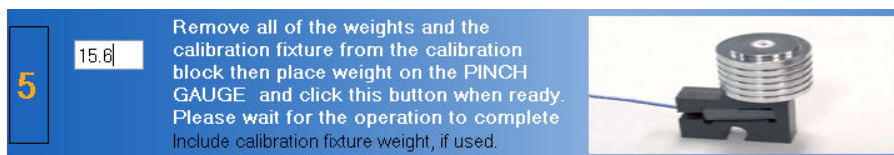

Figure 6-9. Pinch Gauge - Verify the Weight
Step 6. Remove both of the calibration weights and calibration fixture. Re-insert the calibration fixture and then place the 15 lb calibration weight on the fixture. Type **15.6** in the text field (Figure 6-9).
Step 7. Click on  to verify the weight (Figure 6-9).